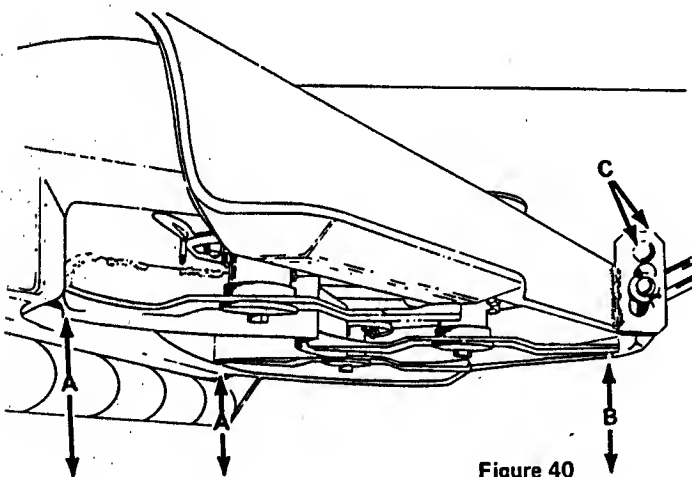

Figure 40
7. Rotate the blades until they are perpendicular to the roller assembly as shown in Figure 40.